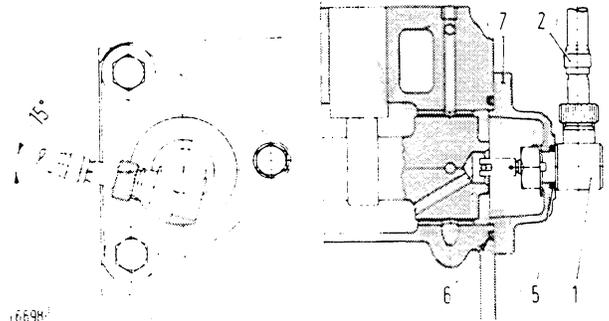

Fig. 32 - Refitting the Tacho-hourmeter Angle Drive
through an angle drive (1, Fig. 32) and associated flexible shaft (2).